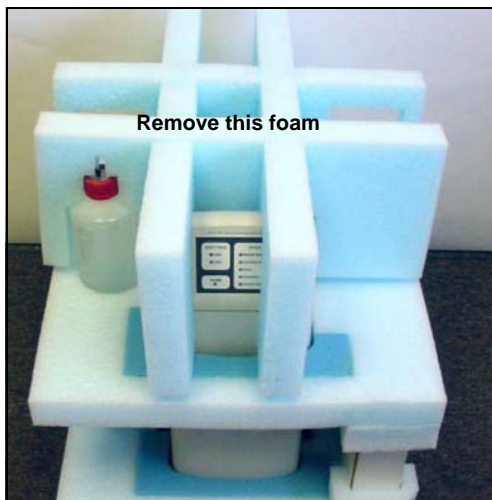

Figure B-1. ICS-1000 After Removing Shipping Box and First Layer of Foam
1. After removing the ICS-1000 from the shipping box and removing the top layer of foam, remove the next layer of foam (see Figure B-1).